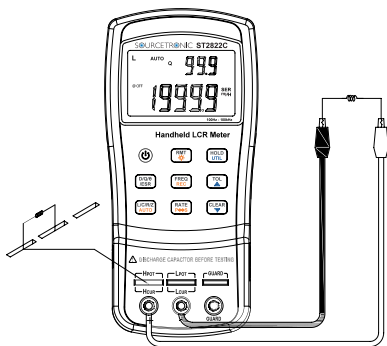
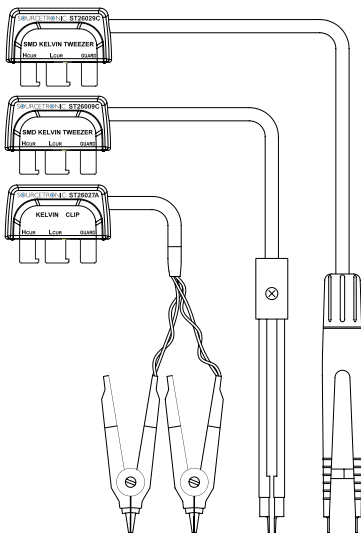
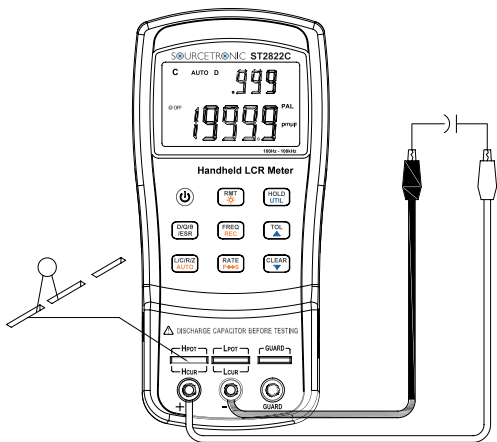
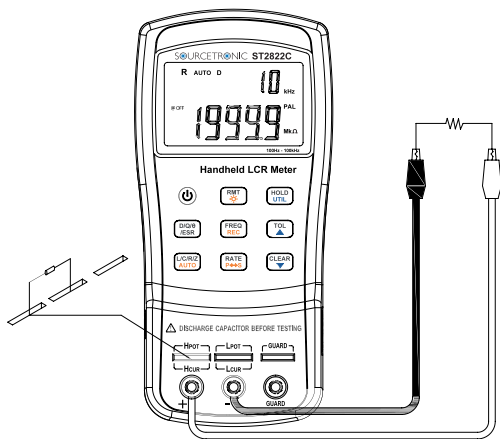

Figure 12 - Inductance Measurement
Figure 13 - 4-terminal Test Accessories
Figure 14 - Capacitance Measurement
Figure 15 - Resistance Measurement
3. Insert an inductor into test slots or connect a tested inductor through a proper test accessory (e.g., banana plug-crocodile clip test leads, test fixture or SMD test tweezers). See figures 12. And figure 13 shows the optional 4-terminal test accessories.
3. Insert a capacitor into test slots or connect a tested capacitor through a proper test accessory (e.g., banana plug-crocodile clip test leads, test fixture or SMD test tweezers). See figure 14. And figure 13 shows the optional 4-terminal test accessories.
3. Insert a resistor into test slots or connect a tested resistor through a proper test accessory (e.g., banana plug-crocodile clip test leads, test fixture or SMD test tweezers). See figure 15. And figure 14 shows the optional 4-terminal test accessories.
3. Insert impedance (resistor, capacitor or inductor) into test slots or connect tested impedance through a proper test accessory (i.e., banana plug-crocodile clip test leads, test fixture or SMD test tweezers). Figure 13 shows the optional 4-terminal test accessories.